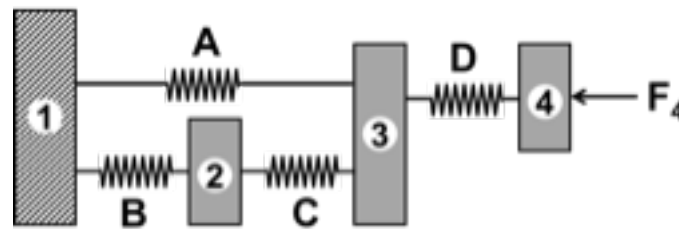

Fig. Q23
23. Three rigid bodies (represented as 2, 3 and 4) and a rigid wall (represented as 1) are connected by four springs (represented as A, B, C and D), as shown in Figure Q23. The stiffness of the four springs (in N/mm) are $k_A = 300$, $k_B = 400$, $k_C = 500$ and $k_D = 600$, respectively. A horizontal force of 1,500 N (represented as F_4) is applied on body 4 as shown in the figure. Assuming that the bodies can undergo translation in the horizontal direction only, use the finite element method to find the displacements of the three rigid bodies and the forces in the four springs, assuming linear elastic behaviour. State whether the forces are tensile or compressive.